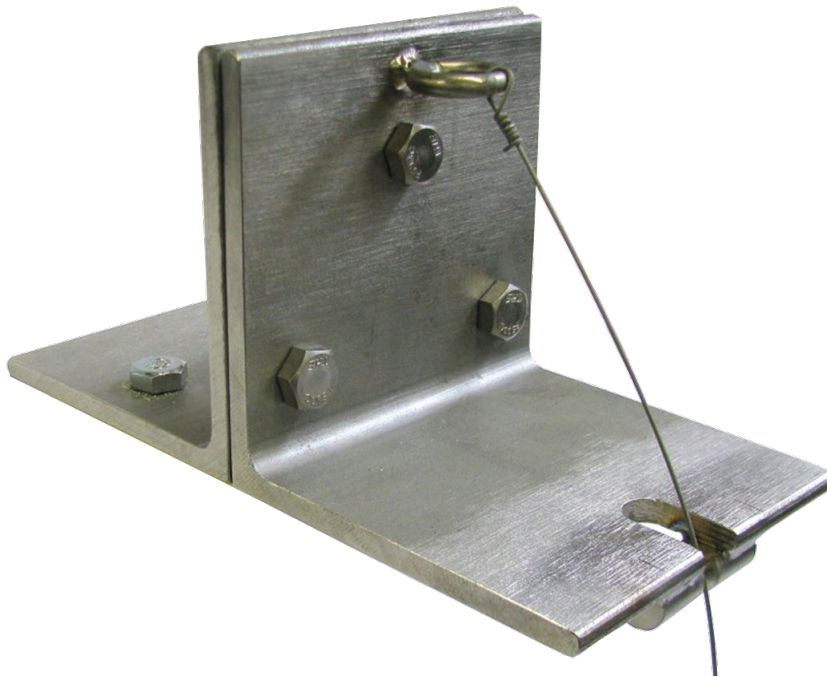

Figure 8 - Mounting Brackets With Twisted
- 1) The wire for the direct pendulum system is normally anchored at the top of a borehole or in the roof of the gallery directly above the drill hole. If the wire is to be anchored to the floor at the top of the drill hole, two angle brackets are required (as shown in Figure 8); if it will be anchored to the ceiling over the hole, just the bracket with the wire guide is used. Mount the angle bracket(s) as follows:
- 2) Attach the pendulum wire to the bracket by feeding it through the wire guide and the eye and then twisting it around itself (Figure 8).